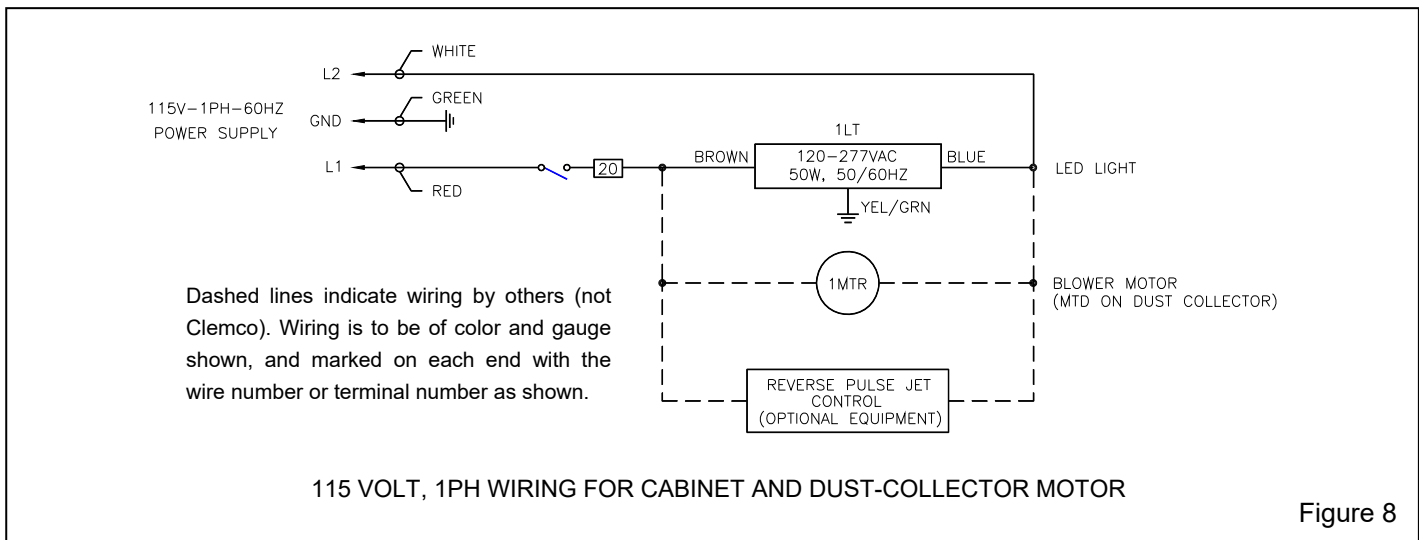

Figure 8
2.5.1.2 Refer to the wiring schematic in Figure 8 and wire the dust collector motor, per instruction on the motor data plate to the junction box mounted on the cabinet. When wired as noted, the dust-collector exhauster motor will start when the cabinet light switch is turned ON and stop when the switch is turned OFF.